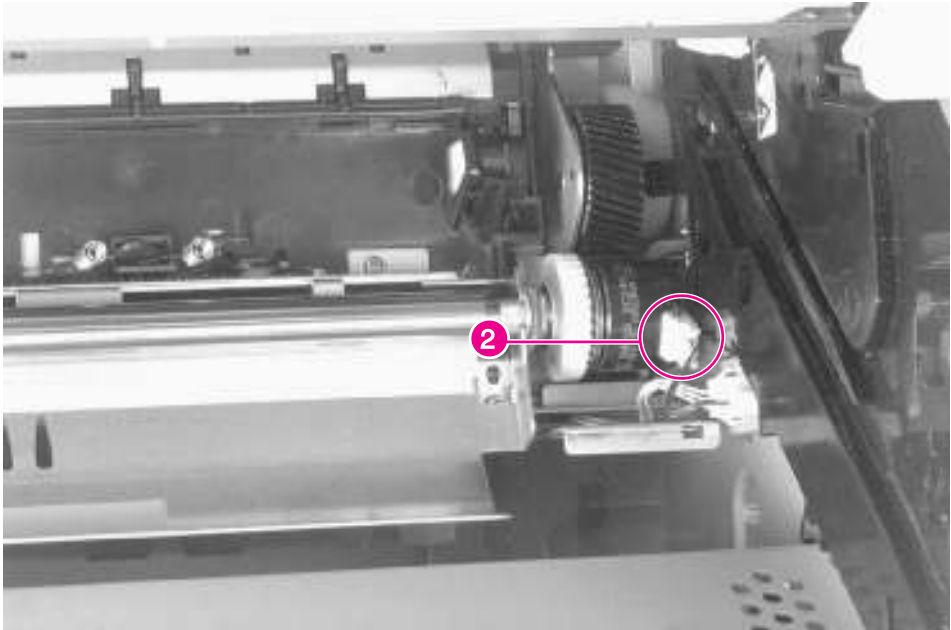

Figure 6-52 **Registration Assembly (2 of 3)**
- 5** Unplug the clutch cable from the clutch on the right end of the Registration Assembly (figure 6-52, callout 2).
- Registration Assembly (see figure 6-52 on page 218)